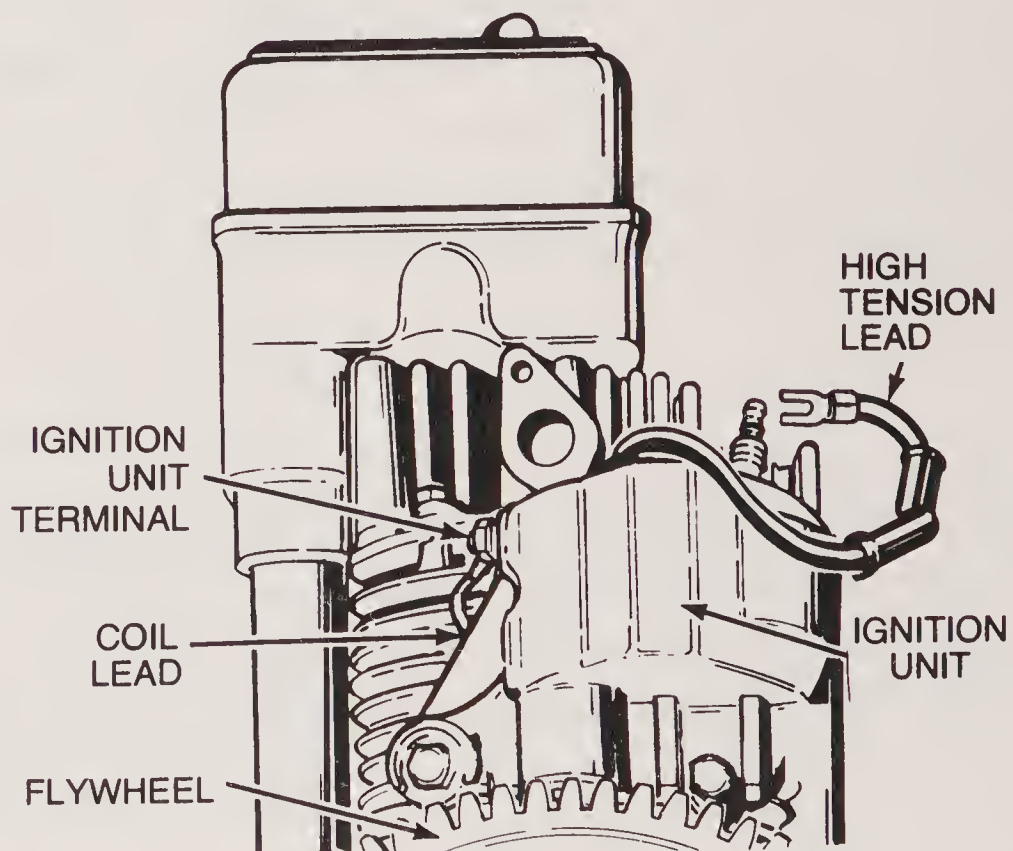

FIGURE 10-5
A breakerless or solid state ignition system is used in some late model engines. The solid state system functions in the same general manner as the system using breaker points, but breaker points and a conventional condenser are not used. The only moving part is the flywheel. The solid state system includes four major components: (1) an ignition winding, (2) a trigger module, (3) an ignition coil assembly, and (4) a flywheel with a trigger projection. The system also includes the conventional spark plug and lead, plus the ignition switch (Figure 10-5).